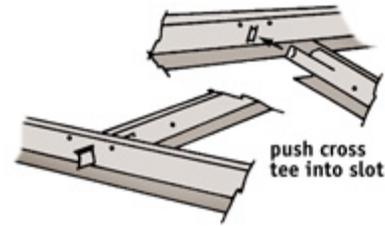

Figure 15 - Insert the cross tees into the slots in the main cross tees.
a) Install the cross tees by inserting the ends of the cross tees into the slots in the main tees (Fig. 15). Use the manufacturer's instructions for fitting the cross tees into position.
c) Be sure the lock tab on the cross tee is on the outside of the slot (Fig. 15). This attachment is slightly different in some types of tees.